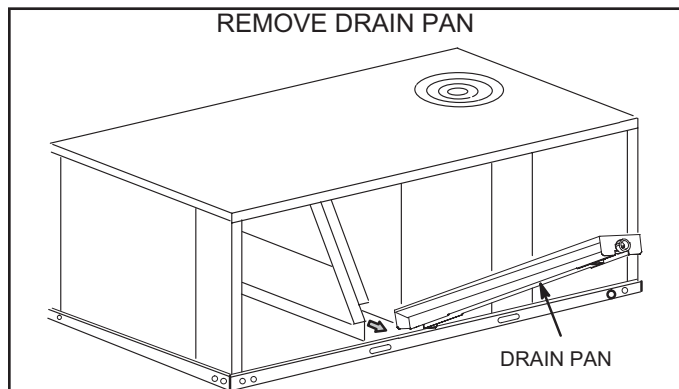

FIGURE 9
- 2 - List the front edge of the drain pan and slide pan out of unit. See FIGURE 9.
- 2 - Lift the front edge of the drain pan and slide pan out of unit. See FIGURE 9.